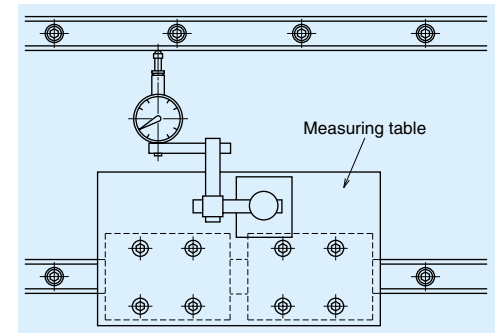

Fig. II-9-15 Measuring parallelism
- ③ If the mounting face of the bed where the adjusting side rail is installed also has a shoulder, repeat the steps (1) - (2).
- ④ If there is no shoulder on the mounting face of the bed for the adjusting side rail: Secure a measuring table to the ball slides of the reference side rail (Fig. II-9-15). Use this to adjust the parallelism of the adjusting side rail. Check parallelism of the adjusting side rail with a dial gauge from one end of the rail, tightening the bolts one by one. The measuring table is more stable if secured to two bearings, but one bearing is sufficient. Parallelism between two rails can also be checked by the same method in Fig. II-9-15 when there is a shoulder on the face where the adjusting side rail is installed.